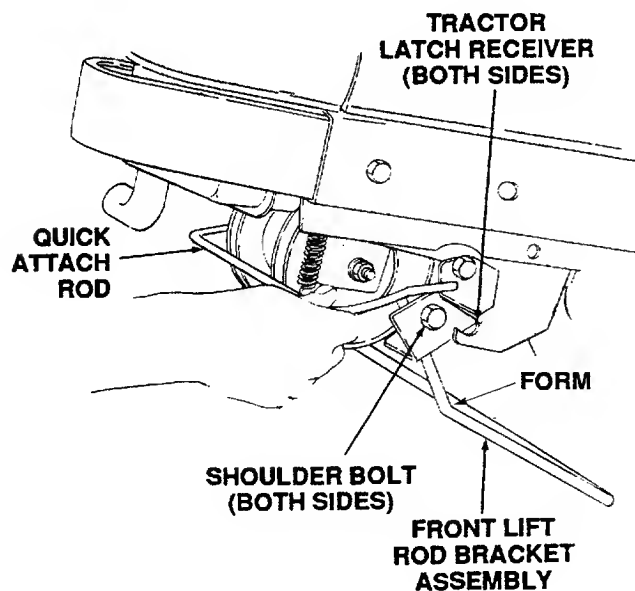
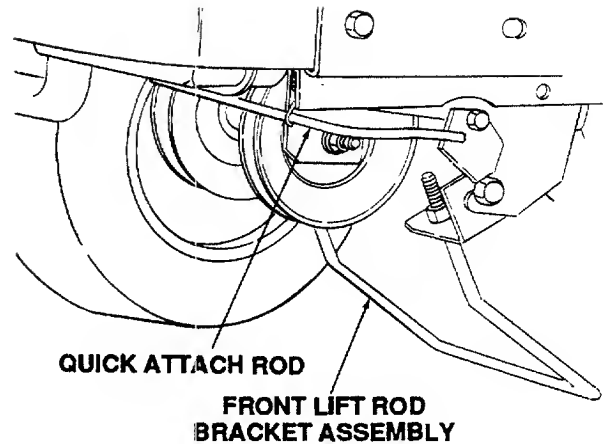

Figure 51
Figure 52
4. Refer to Figure 51 to ensure the correct orientation of the front lift rod/bracket assembly [form (bend) in sides of rod point downward]. From the front of the tractor, push downward and hold the tractor quick-attach rod. Slide the shoulder bolts on each side of the front lift rod/bracket assembly fully into the left and right tractor latch receivers. Release the tractor quick-attach rod to capture the front lift rod/bracket assembly in the tractor latch receivers (Refer to Figure 52).